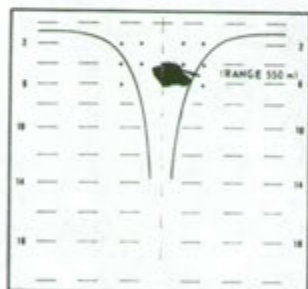

Figure 4.
- (4) The tank is at the oblique and the width appears greater than the length (figure 4).